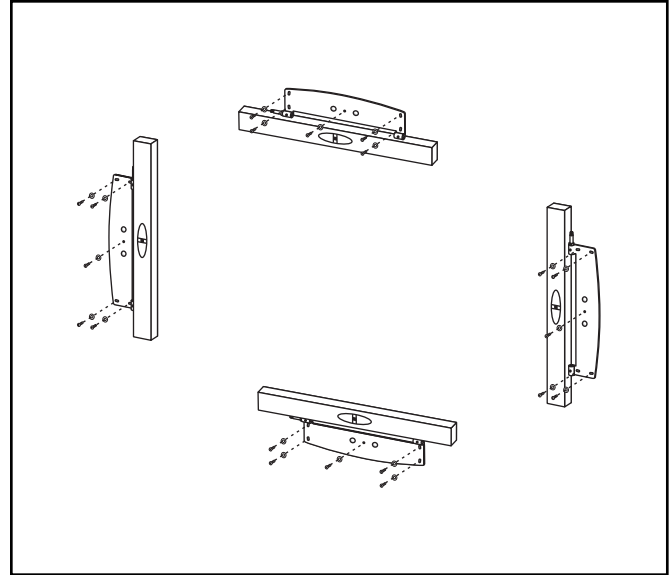

Figure 22. Using a level, square the wall bracket and install the screws.
- 6 Mount the wall bracket to the center wall anchor (or pilot hole) using a 1" Phillips head screw driven through the wall brackets center point. Do not fully tighten the screw—the bracket must be leveled before installing the remaining screws (see figure 22).
- 7 Using a level, square the bracket and drive the four remaining 1" Phillips head screws into the wall anchors (or pilot holes). Do not fully tighten the screws (see figure 22).
- 8 Using a level, make sure the bracket is level and tighten all five screws (see figure 22).